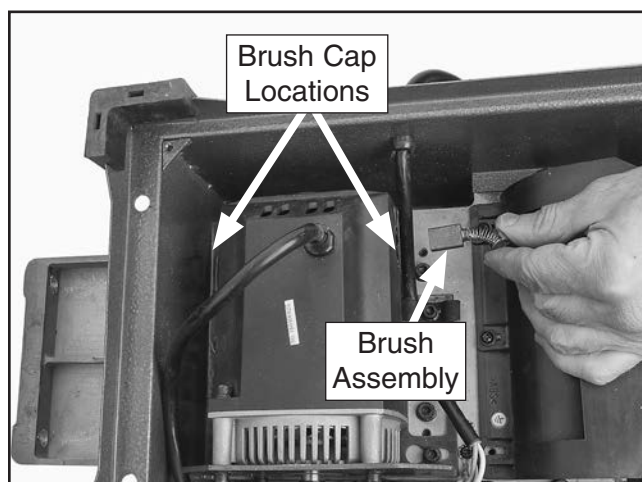

Figure 60. Removing a motor brush.
3. Remove (4) Phillips head screws securing motor cover to jointer base. Remove cover and set it aside.
5. Use a dime to unscrew motor brush caps (see **Figure 60**).